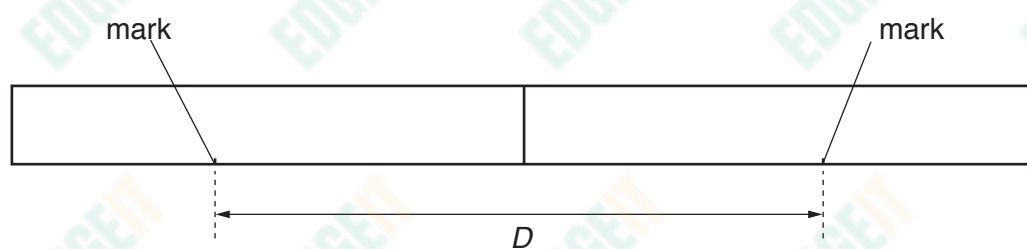

Fig. 2.2
- (iv)** Measure and record the distance D between the marks, as shown in Fig. 2.2.